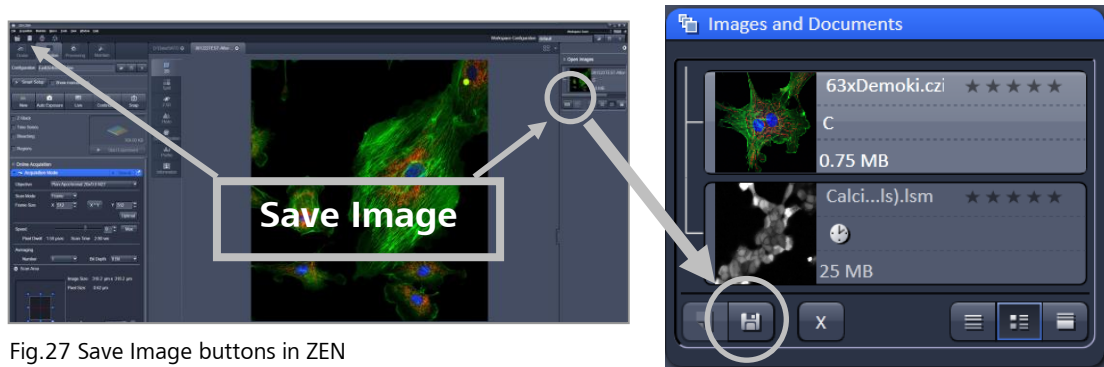

Fig.27 Save Image buttons in ZEN
① To save your acquired images, click on the **File** - **Save** or **Save As** button, or click on the  icon at the bottom of the Right tool Area (Fig. 27).
② The WINDOWS **Save As** window appears.